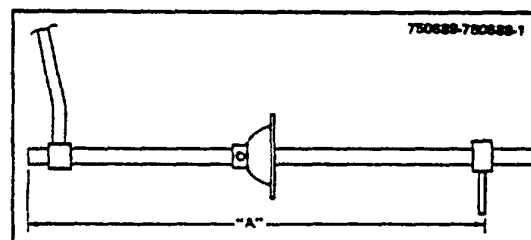

Figure 3-2. Shift Lever Dimension
2. If the location was not marked, position lever so that it points in direction opposite to the shift selector handle and adjust to the dimension indicated in Figure 3-2.
3. For ACC 35-55 trucks the "A" dimension (Figure 3-2) is 29.06". For ACP 40-50 trucks the "A" dimension is 30.12".